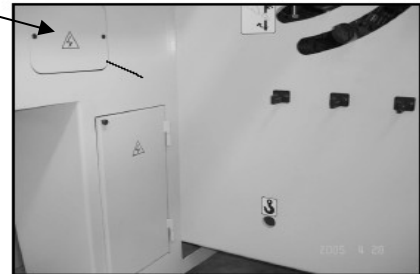

Fig. 68
6. Open the cover plates under each end of table and loosen the table mounting bolts. (Fig. 68)